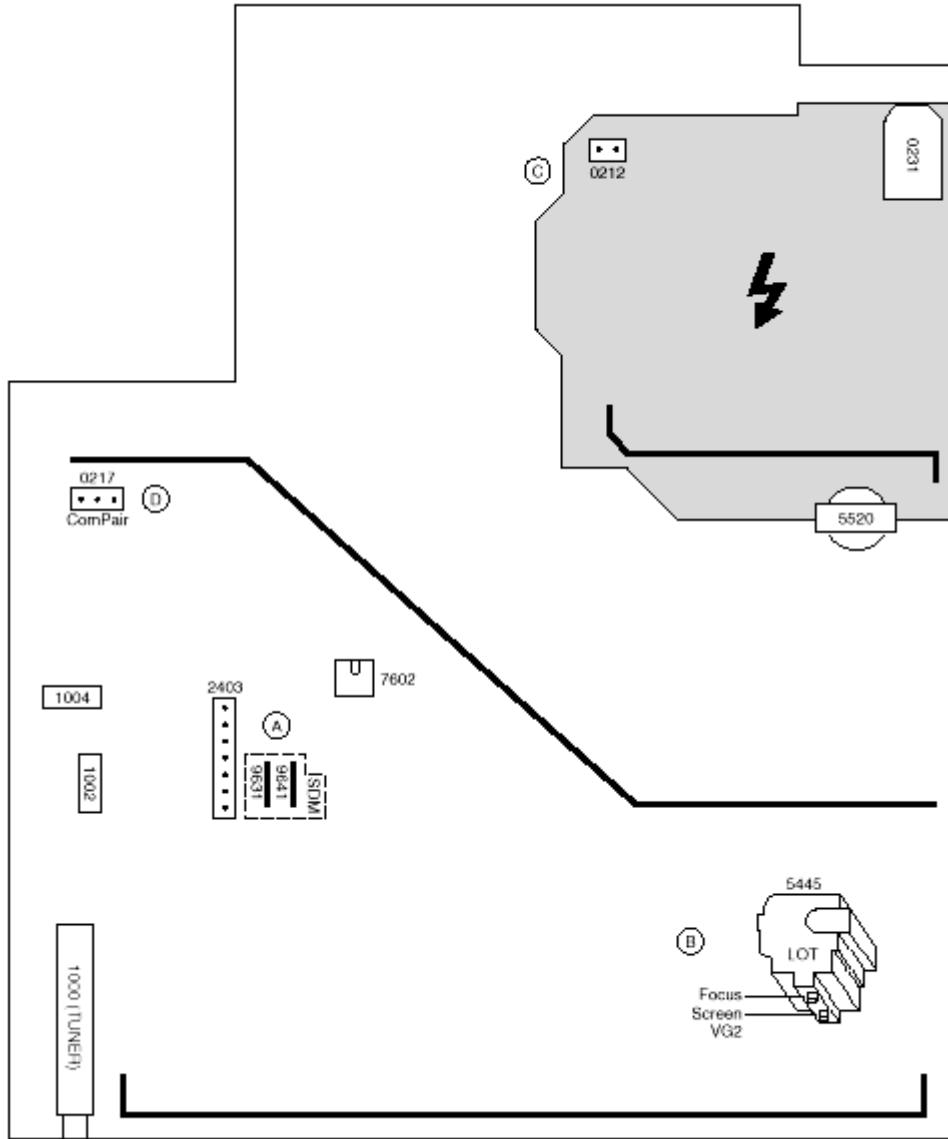

Fig. 1
10. Select the cathode with the highest V_{DC} value for the alignment. Adjust the V_{cutoff} of this gun with the SCREEN potentiometer (see Fig. 1) on the LOT to the correct value (see table below).
3. Adjust the FOCUS potentiometer (see Fig.1) until the vertical lines at 2/3 from east and west, at the height of the centerline, are of minimum width without visible haze.